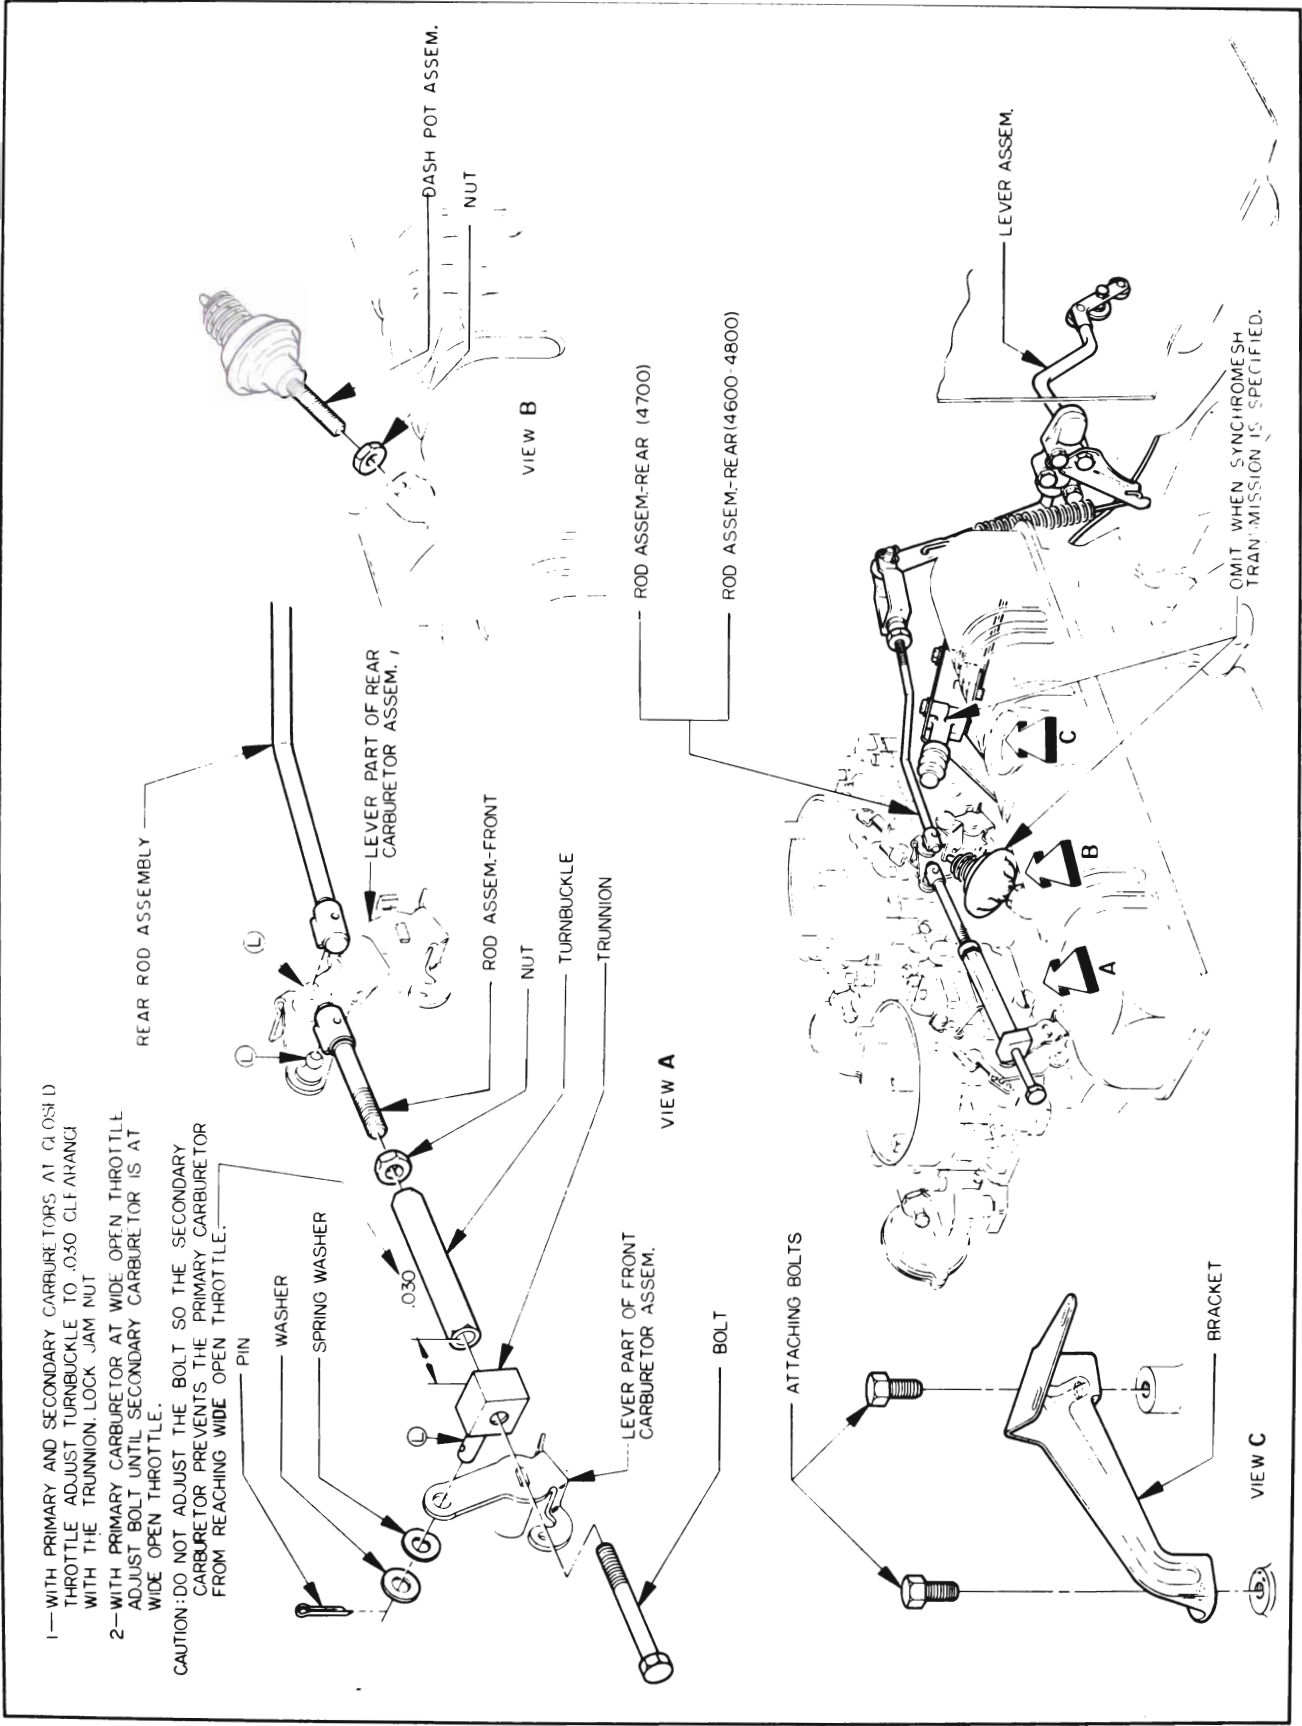

Figure 3-91—Throttle Control Information—Dual 4-Barrel
3. With both carburetors held at closed throttle, adjust turnbuckle until it just contacts trunnion of front carburetor, then back-off turnbuckle one turn and tighten lock nut. See Figure 3-91.